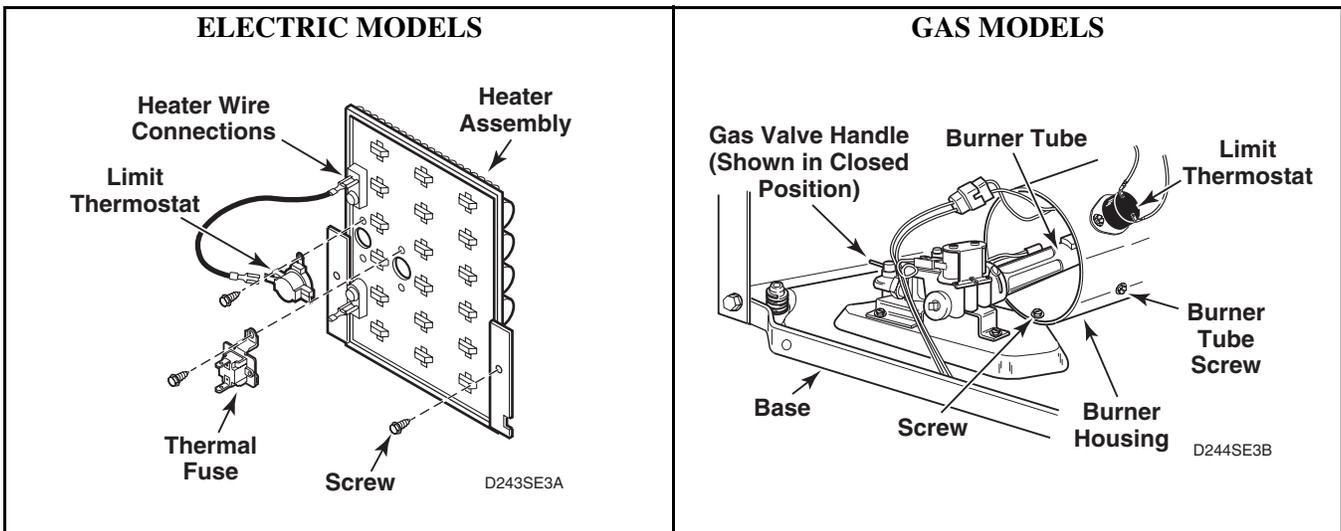

Figure 22
- (1) Remove one screw from right side of burner housing holding burner tube in place. Refer to *Figure 22*.
- d. Remove screw from right side of burner housing, while holding burner tube in place. Refer to *Figure 22*.
- i. Remove screw holding front of burner housing to dryer base and remove housing out through front of dryer. Refer to *Figure 22*.
- c. Disconnect wires and remove screws holding limit thermostat to burner housing (gas models) or element plate (electric models). Refer to *Figure 22*.
- Remove two screws holding heater assembly to heater box and remove heater assembly out through front of dryer. Refer to *Figure 22*.
- Disconnect wires from heater assembly. Refer to *Figure 22*.